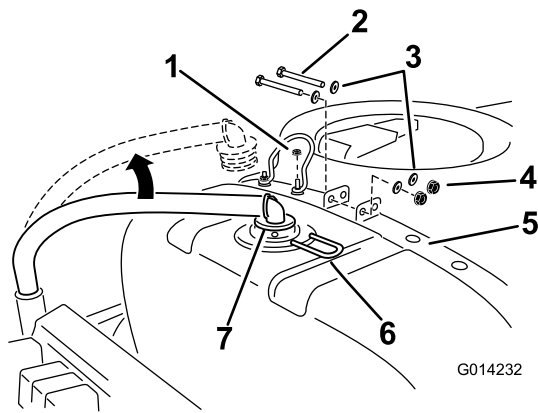

Figure 7
4. Disconnect the supply hose at the rear and top of the main tank (Figure 7).